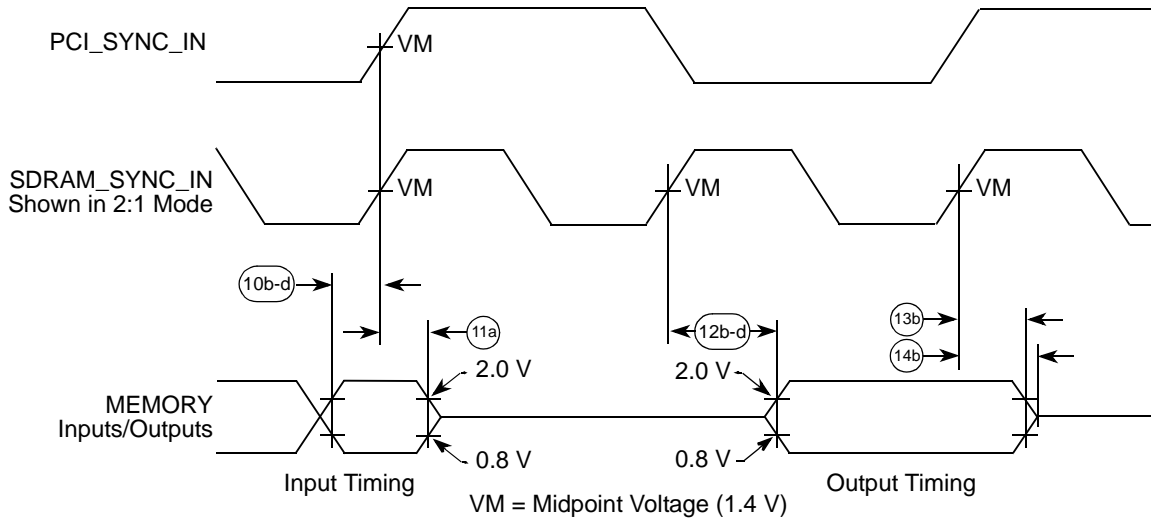
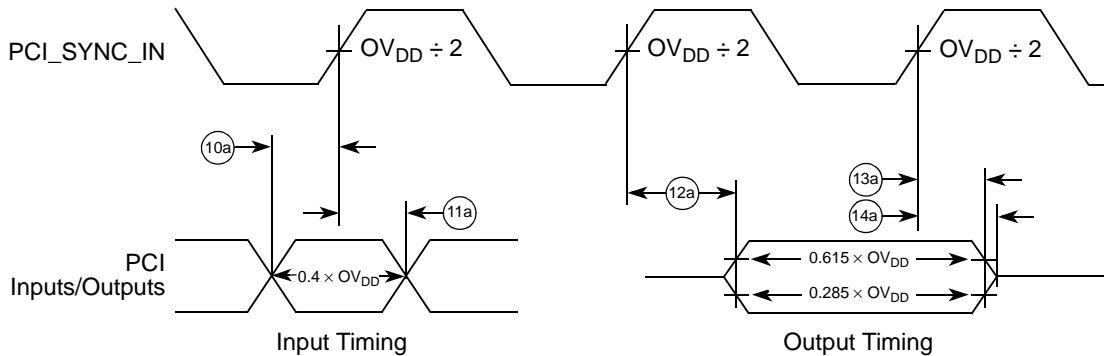
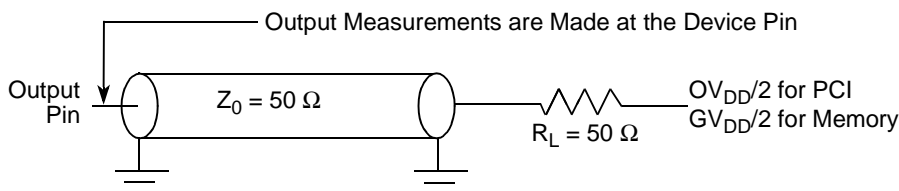

Figure 8. Input-Output Timing Diagram Referenced to SDRAM_SYNC_IN
Figure 9. Input-Output Timing Diagram Referenced to PCI_SYNC_IN
Figure 11. AC Test Load for the MPC8240
Table 8 provides the input AC timing specifications. See Figure 8 and Figure 9 for the input-output timing diagrams referenced to SDRAM_SYNC_IN and PCI_SYNC_IN, respectively.
- All memory and related interface input signal specifications are measured from the TTL level (0.8 or 2.0 V) of the signal in question to the $V_M = 1.4\text{ V}$ of the rising edge of the memory bus clock, SDRAM_SYNC_IN. SDRAM_SYNC_IN is the same as PCI_SYNC_IN in 1:1 mode, but is twice the frequency in 2:1 mode (processor/memory bus clock rising edges occur on every rising and falling edge of PCI_SYNC_IN). See Figure 8.
- All PCI signals are measured from $OV_{DD}/2$ of the rising edge of PCI_SYNC_IN to $0.4 \times OV_{DD}$ of the signal in question for 3.3-V PCI signaling levels. See Figure 9.
Table 9 provides the processor bus AC timing specifications for the MPC8240. See Figure 8 and Figure 9 for the input-output timing diagrams referenced to SDRAM_SYNC_IN and PCI_SYNC_IN, respectively. Figure 11 shows the AC test load for the MPC8240.
- All memory and related interface output signal specifications are specified from the $V_M = 1.4 \text{ V}$ of the rising edge of the memory bus clock, SDRAM_SYNC_IN to the TTL level (0.8 or 2.0 V) of the signal in question. SDRAM_SYNC_IN is the same as PCI_SYNC_IN in 1:1 mode, but is twice the frequency in 2:1 mode (processor/memory bus clock rising edges occur on every rising and falling edge of PCI_SYNC_IN). See Figure 8.
- All PCI signals are measured from $OV_{DD}/2$ of the rising edge of PCI_SYNC_IN to $0.285 \times OV_{DD}$ or $0.615 \times OV_{DD}$ of the signal in question for 3.3-V PCI signaling levels. See Figure 9.
- All output timings assume a purely resistive 50- Ω load (see Figure 11). Output timings are measured at the pin; time-of-flight delays must be added for trace lengths, vias, and connectors in the system.
- PCI hold times can be varied; see Section 1.4.2.4.1, "PCI Signal Output Hold Timing," for information on programmable PCI output hold times. The values shown for item 13a are for PCI compliance.